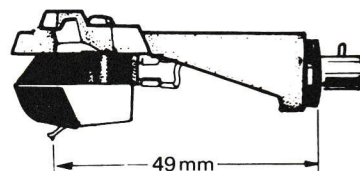

Fig. 15
5. Adjust the position of the cartridge so that the stylus and the connector section of the headshell are 49mm apart and tighten up the screws. Make sure that the cartridge does not tilt to one side when you attach it (See Fig. 15).